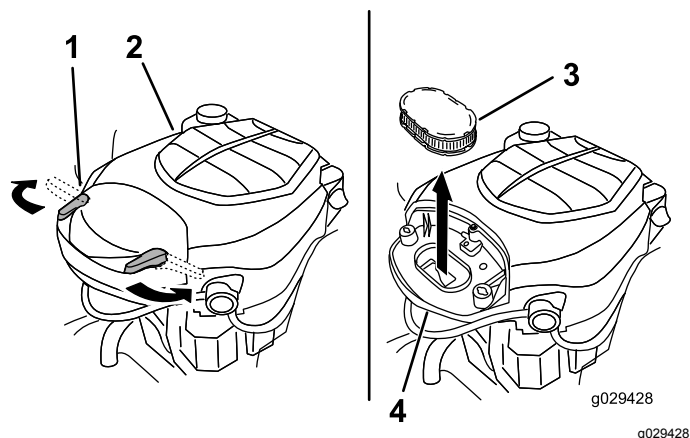

Figure 25
2. Remove the cover to access the air-cleaner element (Figure 25).
7. Install the cover, and secure it with the latches (Figure 25).